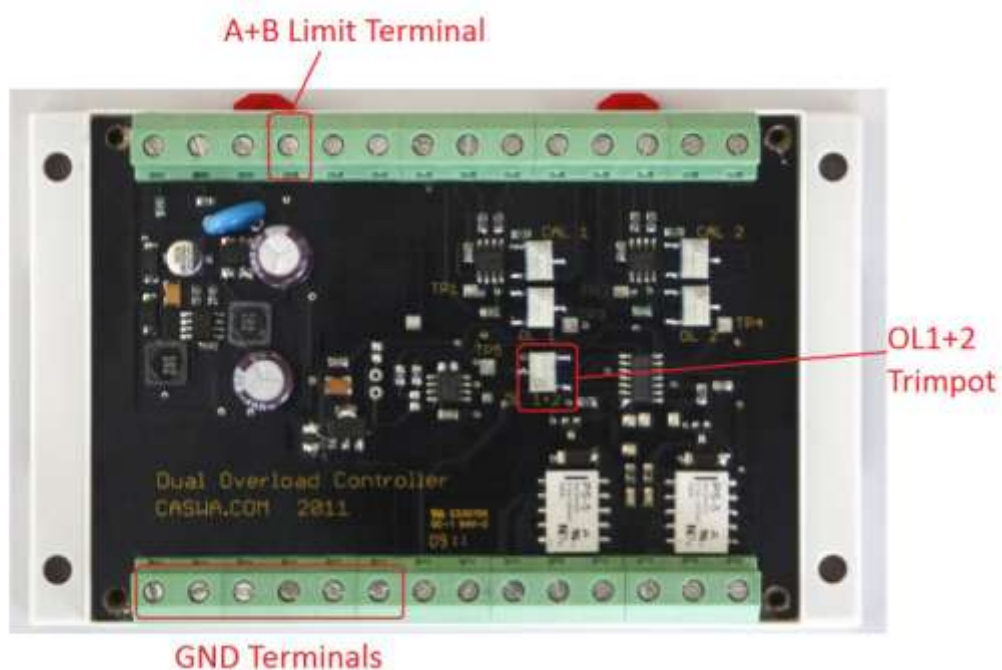

Figure 7: Setting the combined limit
3. Insert the positive probe into the A+B Limit terminal on LimitMate (See Figure 7).